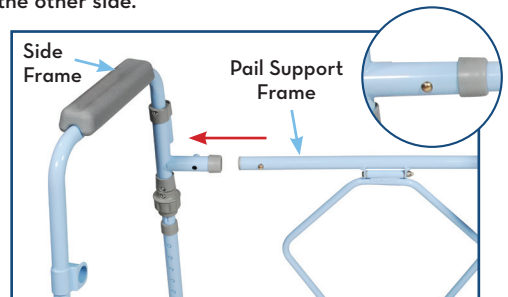

figure 3
3. Line up the side frame with the pail support frame (figure 3). Slide the pail support frame into the side frame while depressing the push pins until the push pin “pops” into the hole on the side frame. Once the one side of the pail support frame is secure in the side frame, turn the lock knob on the back of the side frame until hand tight (figure 4). Repeat on the other side.